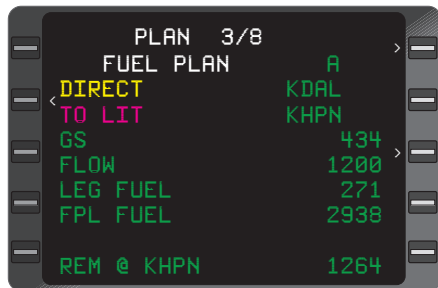

Figure 3-164
*NOTE: Initially the **FUEL PLAN** will display the Active Flight Plan (if selected). The initial leg displayed will be **DIRECT TO** the current **TO** waypoint from **NAV** page 1. (Figure 3-164)*